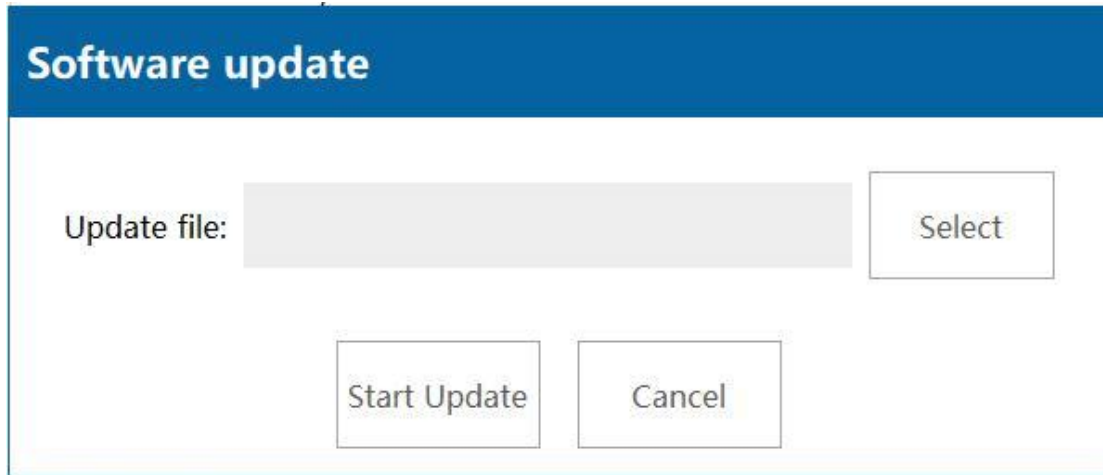

Figure 4-33
2. Click on system update, and a pop-up interface will appear as shown in Figure 4-33